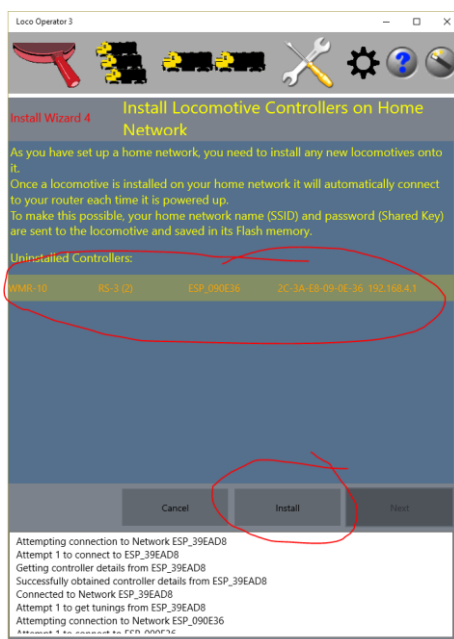

Figure 47 Installing Loco Controllers onto your Home Net
- (5) You now see the Install Wizard 4 screen as Figure 47. When the screen enters, any powered-up, uninstalled WDM-30 modules are discovered. Uninstalled locomotives are those that have not been given the SSID and Password to enable them to connect to your Home Network. Select them one by one and click the Install button. Then click Next.